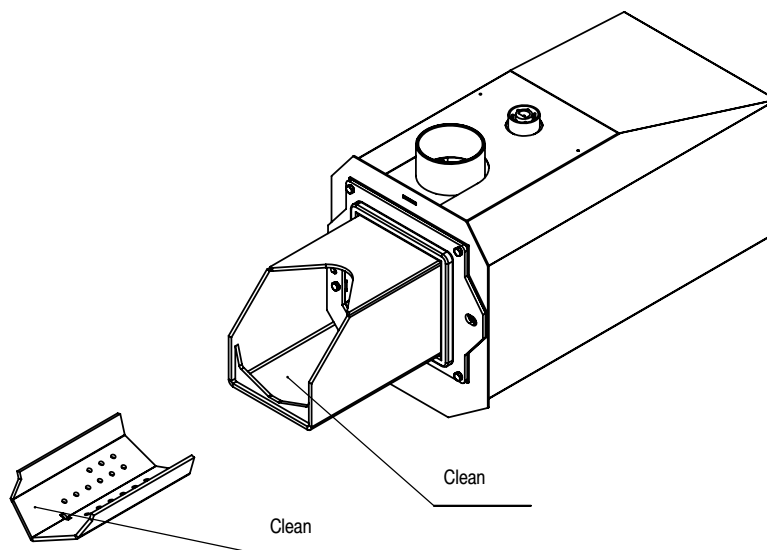

Fig. 16 Platinum Bio burner cleaning.
3. Remove the grate from the burner and clean it (pay attention to free flow of the aeration holes). Clean the cover of the burner grate (Fig.16)